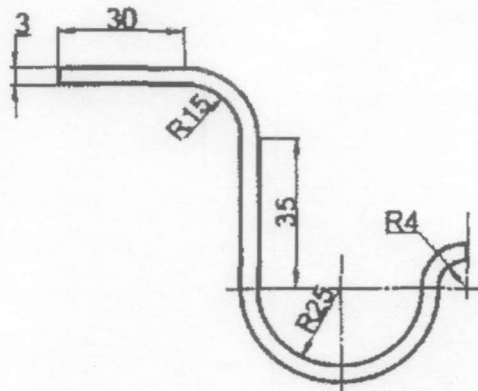

Figure 4
- (ii) Calculate the developed blank length for the bent component shown in Figure 4. [5]